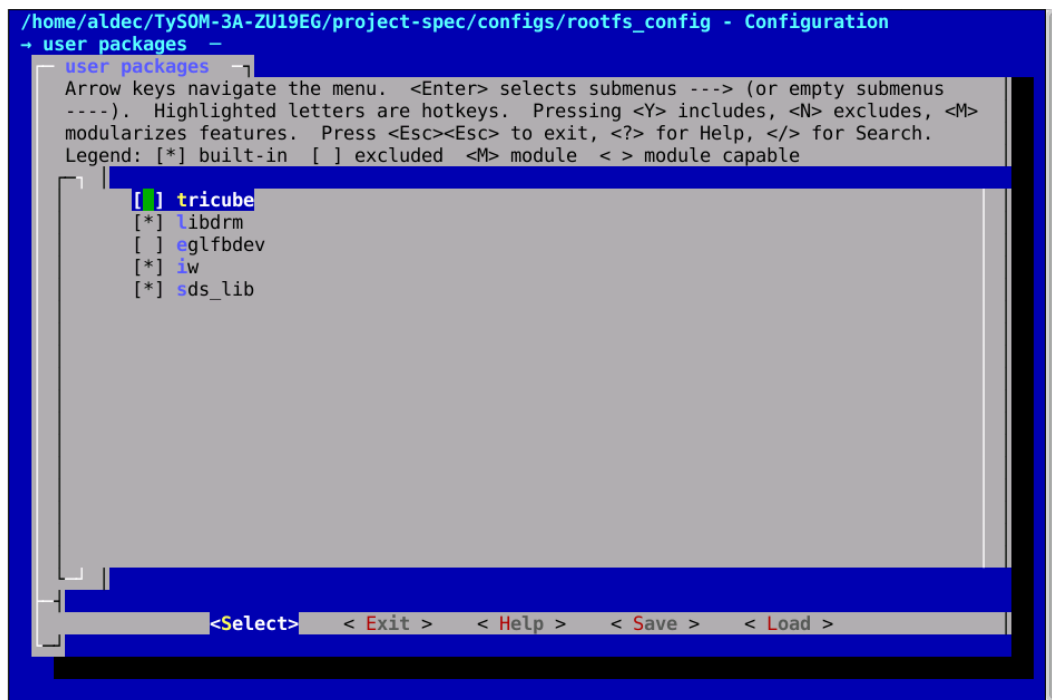

Figure 5: Adding External Applications
- select added components under **Apps** submenu as shown in Figure 5;